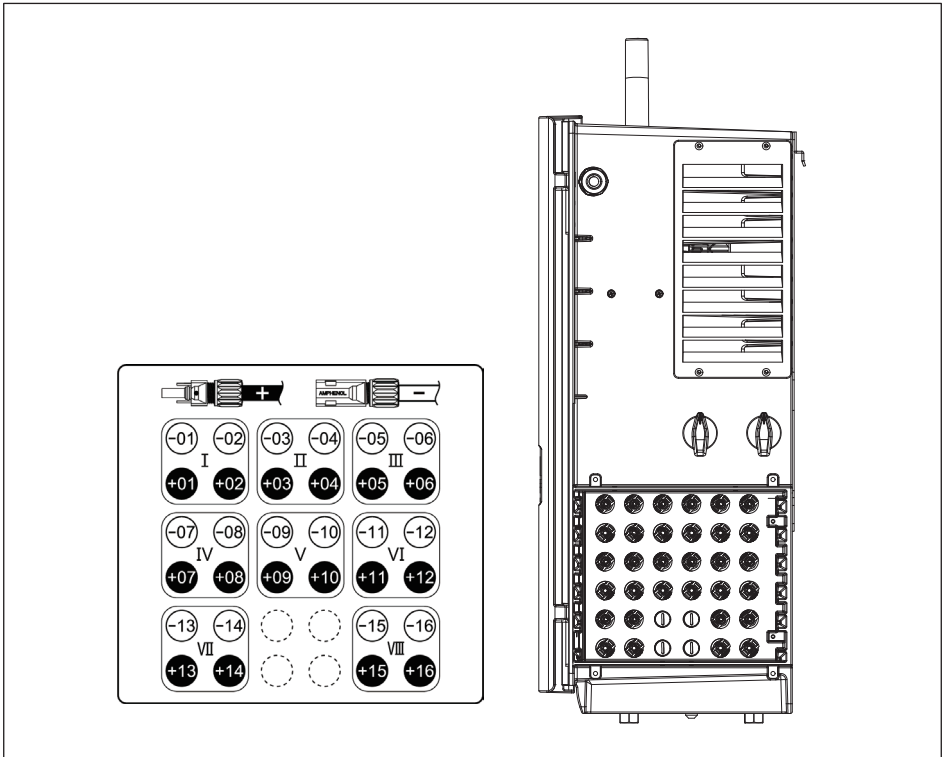

Figure 3-17: location of H4 connectors to connect array wiring (DC)
- (1) Before the installation, ensure the two DC switches are in the "OFF" position and be locked for protection. If it can be "ON" during the DC wiring installation, it may cause DC connector or inverter damage. Even more, it has the risk of electric shock.
- (2) Install the connector holder as shown below.
- (3) According to **Figure 3-17**, follow the DC input pairs and the polar to plug in the connector. Remind, two PV strings have the same series-quantity in one MPP tracker.
- (4) Unused DC connectors of the inverter or DC wirings must plug the protective cover.
- (5) Ensure all DC wirings are connected to the inverter well and correct. Switch ON two DC connectors to finish the installation.